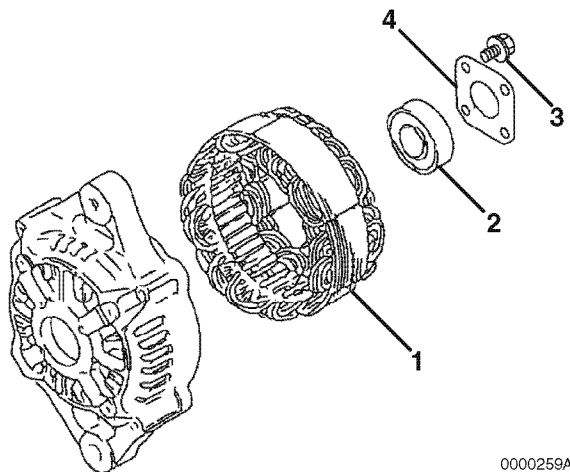

Figure 11-13
- If removed, lubricate the outside diameter of a new front frame housing bearing. Press the bearing (Figure 11-13, (2)) into the front frame housing. Reinstall the plate (Figure 11-13, (4)) to the front housing. Tighten the four bolts (Figure 11-13, (3)).
3. Position the stator assembly (**Figure 11-13, (1)**) on the front frame housing studs.